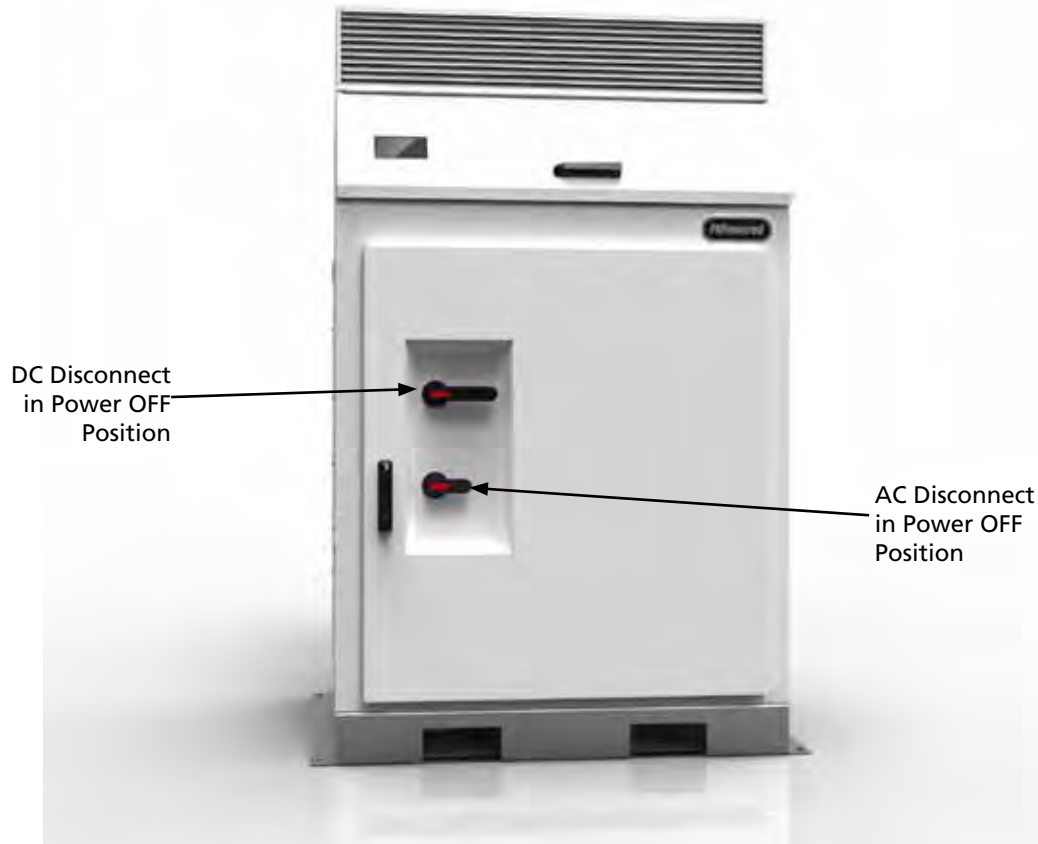

Figure 2-1 Inverter in the De-energized State
3. Position the AC Disconnect lever to the OFF position as shown in Figure 2-1.
4. Position the DC Disconnect lever to the OFF position as shown in Figure 2-1.